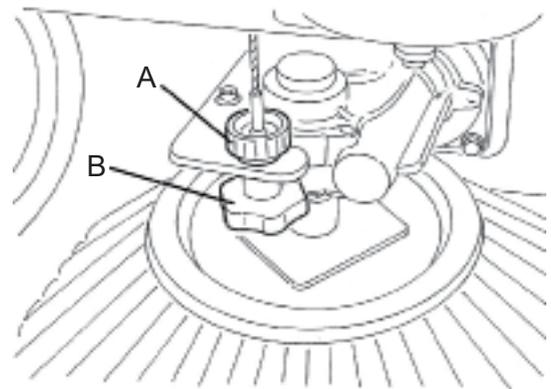

Figure7
- 3) Loosen the knob (A, Fig. 7) positioned above the brush.
- 4) Turn the knob (B, Fig. 7) and remind that: